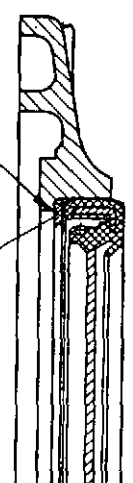

Fig. 5
- Introduce shim 6.000.0.340.004.4, pressing seal fully home against shim (Fig. 5).